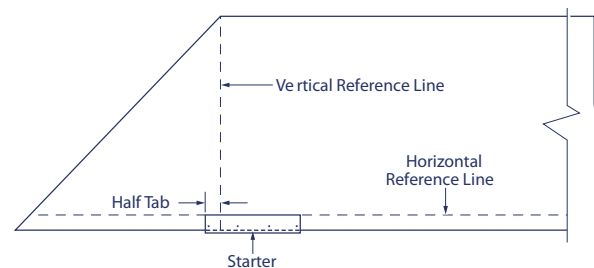

Figure 9-1: Starter strip overlapping the vertical reference line
3. Install starter strips as directed in the application instructions for the shingle being applied. Overlap the vertical reference line by the measured half tab-length portion of the shingle instead of cutting it off. The starter strip should extend the entire length of the eaves (see Figure 9-1).